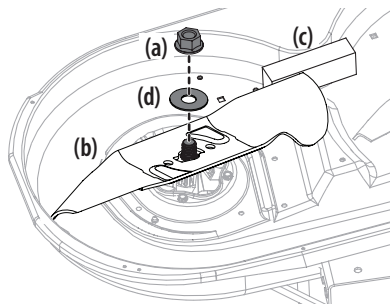

Figure 1
2. Use a 15/16" wrench to hold the hex nut on top of the spindle assembly when loosening the hex nut (a) and washer (d) securing the blade (b). A block of wood (c) may be placed between the deck housing and the cutting edge of the blade (b) to help in breaking loose the hex nut (a) and washer (d) securing the blade. See Figure 1.
3. When re-installing blades, be sure of the following (see Figure 1):